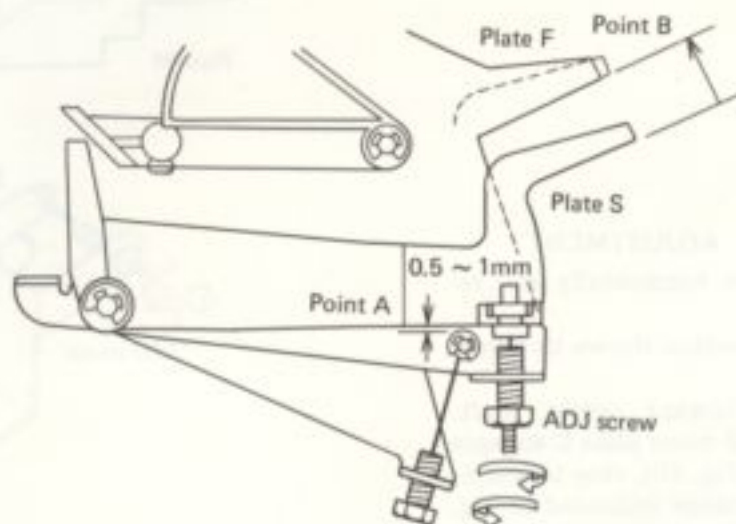

Fig. 34
### 12.3 STOP ADJUSTMENT (Fig. 34)
2. Adjust screw so that point A in Fig. 34 is 0.5 to 1.0mm when plate S moves.